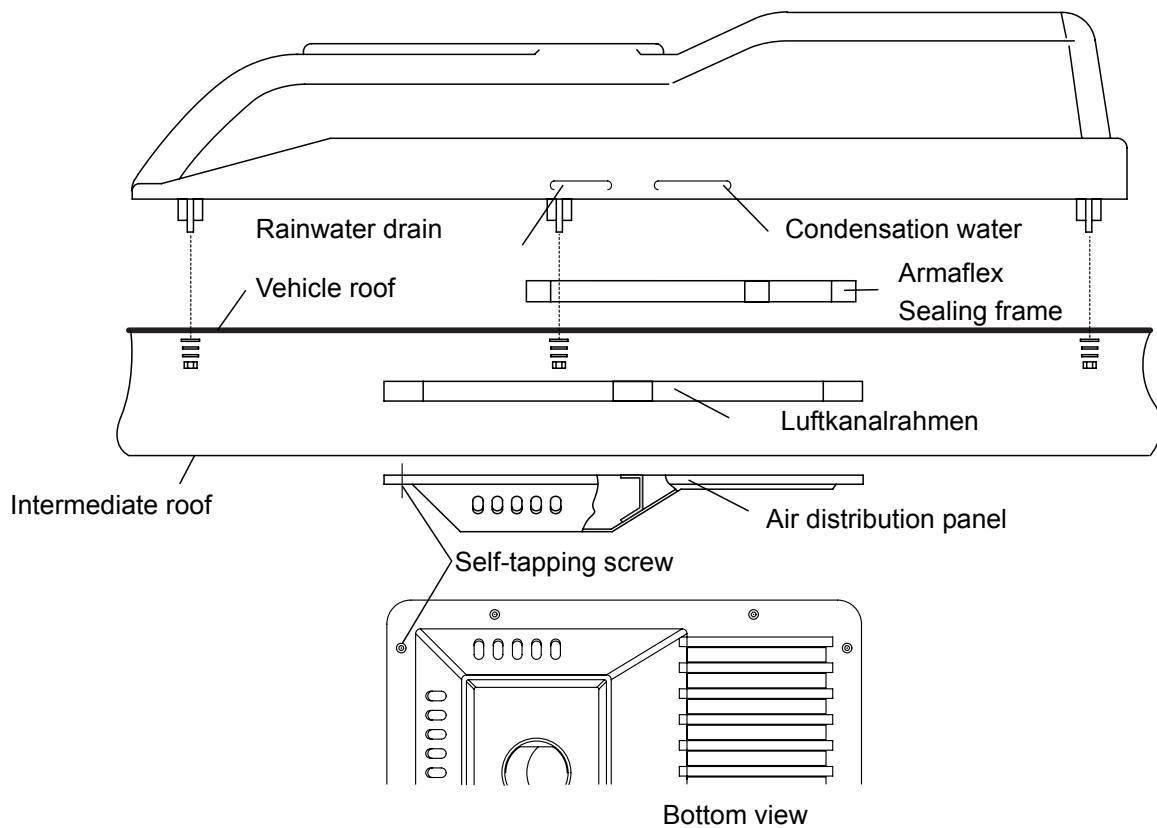

Fig. 4.3
- Prepare inner roof so that the air-distribution panel can be installed under the roof (see Fig. 4.3).
- Affix the sealing profile to the roof with the Sikaflex 221 included in the installation kit as shown in Fig. 4.3.
- a) Place the baseplate on the roof (sealing frame) and align it. Place silent blocks under the eight fastening points and insert the nine M8 bolts (with washers) into the holes (Fig. 4.3).
- Position the air distribution panel as shown in Fig. 4.3 and secure it with ten self-tapping screws to the intermediate roof or to suitable self-made brackets if necessary. If the optional recirculating-air filter has also been ordered, it must be inserted in the intake area of the air distribution panel.